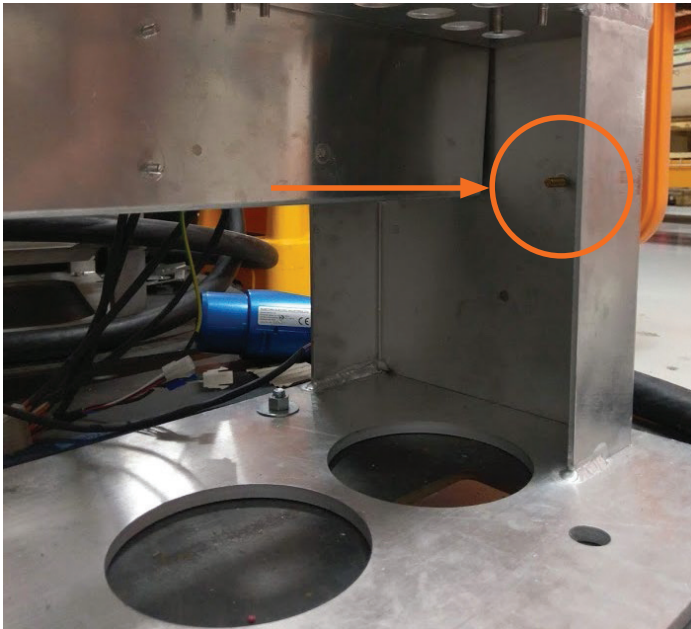

Figure 18: User Unit Earth Stud Location
Terminate the local earth electrode to the body of the User Unit on the same stud as the protective Earth cable (Figure 18: User Unit Earth Stud Location).
2. Measure and cut to required length to terminate to stud located in Figure 18.